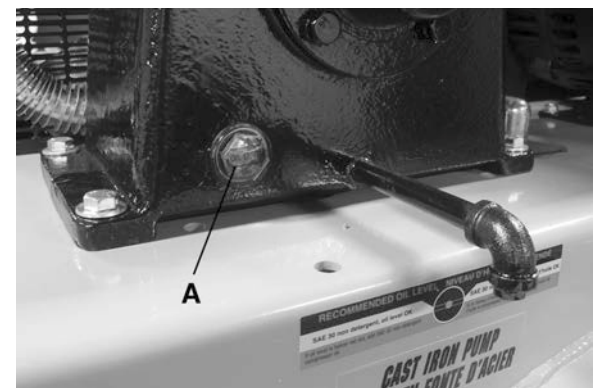

FIGURE 4
- 3) Make sure the oil level in the crankcase reaches the centre dot of the oil sight glass (A) Fig.4, refer to maintenance section for instructions on how to fill the crankcase with oil.